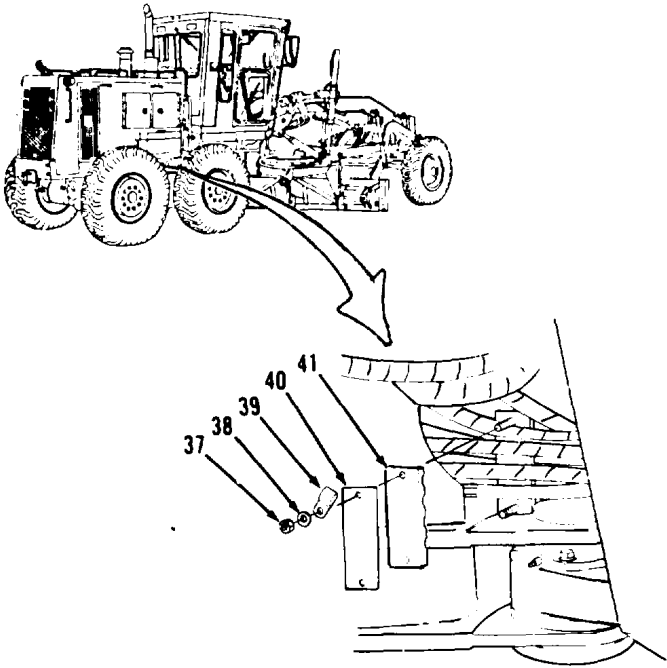
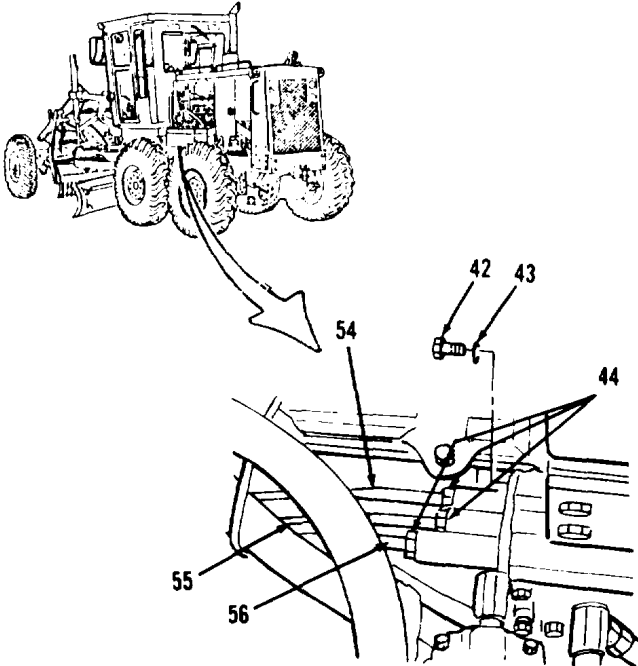

Figure 5-23.
Figure 5-24.
- 21. Remove two nuts (37) and washers (38, Figure 5-23) from under right, front side of engine compartment.
- 22. Remove clip (39).
- 23. Remove plate (40) and clamp (41).
- 24. Remove two bolts (42) and washers (43, Figure 5-24) from left, front of transmission in the engine compartment.
- 25. Remove three nuts (44) and slide back on control cables (54, 55 and 56).